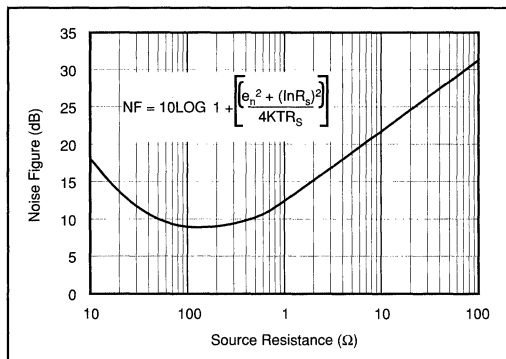

FIGURE 8. Noise Figure vs Source Resistance.
The OPA648's voltage and current noise spectral densities are specified in the Typical Performance Curves. For RF applications, however, Noise Figure (NF) is often the preferred noise specification since it allows system noise performance to be more easily calculated. The OPA648's Noise Figure vs Source Resistance is shown in Figure 8.